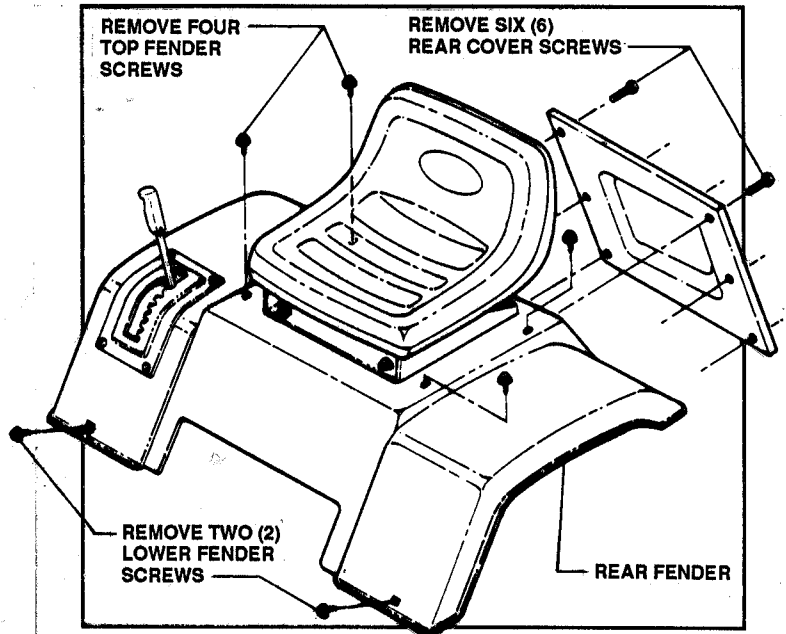

FIGURE 4.8
- C. Disconnect wires to seat switch and remove Rear Fender from tractor. See Figure 4.8.